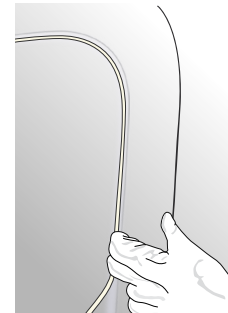

Figure 12
- ▶ Put on a glove and apply a strip of TIRODECO or WRAPKNIFE tape to the lower edge of the substrate to be wrapped, as close as possible to the deformation. (FIG. 12)